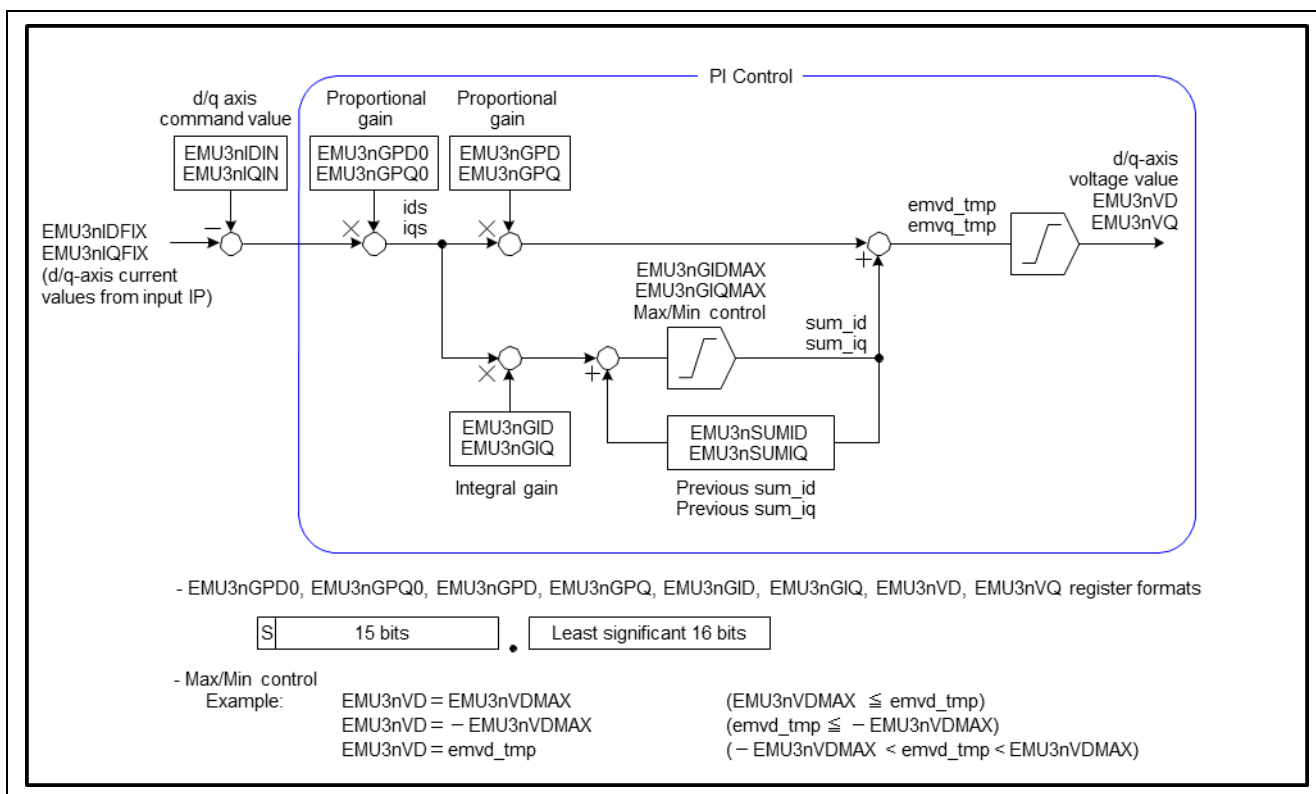

Figure 2-4 Block diagram of PI control IP
- The PI control IP calculates d and q-axis voltages using the d and q-axis currents (feedback values) calculated by dq conversion and the d and q-axis current values (command values) set by software. When PIIPTRG bit of EMU3nIPTRG register is set to "1", the PI control IP is automatically activated when the input IP processing is completed. Figure 2-4 shows a block diagram of the PI control IP. From the feedback values stored in EMU3nIDFIX and EMU3nIQFIX registers and the command values set in EMU3nIDIN and EMU3nIQIN registers, the d and q-axis voltages, which are the operating quantities, are calculated. As a result, the d-axis voltage is stored in EMU3nVD register and the q-axis voltage in EMU3nVQ register.